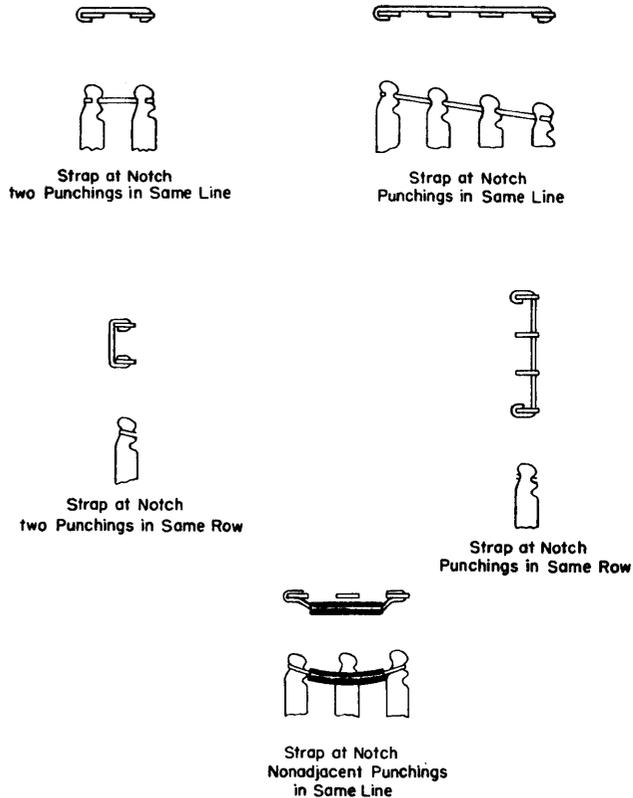
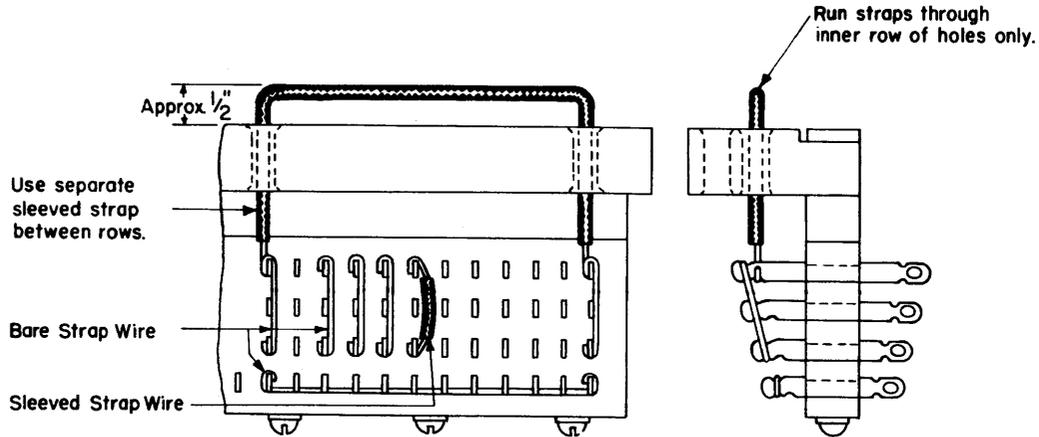

Fig. 2 - Straps on 208, 217 and Similar Type Terminal Strips
Fig. 3 - Straps Connecting Rows of Strapped Punchings
4.10 Test Frames: Cross-connections between punchings in different terminal strips shall be run from the punching on one terminal strip through the associated fanning strip and then through the fanning strip of the other terminal strip to the desired punching. Where the cross-connection is to be made to punchings in different vertical rows of a terminal block, the cross-connections between punchings in non-adjacent rows shall be run through the fanning strip as shown in Fig. 3. In the case of incoming trunk test connector frames, strapping is permitted with bare wire between adjacent punchings not in the same vertical row (Figs. 2 and 3).
4.08 Where more than two non-adjacent punchings in the same vertical row are to be connected to one cross-connection point in the field, run two separate cross-connections from the common punching in the field to the furthest and nearest punchings and strap these with bare or sleeved strap wire as shown in Fig. 2 to the other terminals to be connected. However, on non-adjacent terminals on terminal strip C of the originating marker, run separate cross-connections from the common punchings in the field to each of the punchings to be connected.
4.09 Where cross-connection is necessary between the field and terminals not in the same vertical row, cross-connections shall be run from the field to one of the terminals and from this terminal through the fanning strip to the other terminal as shown in Fig. 3. Where the number of cross-connections involved is such as to cause congestion if all wires are passed through the inner fanning strip holes,
5.02 Where two or more punchings are to be connected by "common wiring" use straps as shown on Fig. 2.